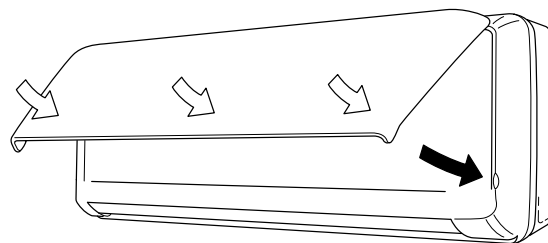

Fig. 12
- (6) After closing the front panel, press firmly on the parts indicated by the arrows to securely fasten the panel in place. (Fig. 12)